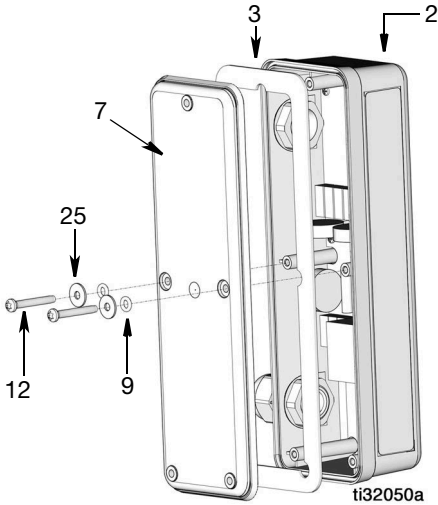

FIG. 4
- Remove two screws (12), washers (25) and o-ring (9) from the PAC cover (7) and remove the cover and seal (3) from the PAC electronics enclosure (2) (FIG. 4).